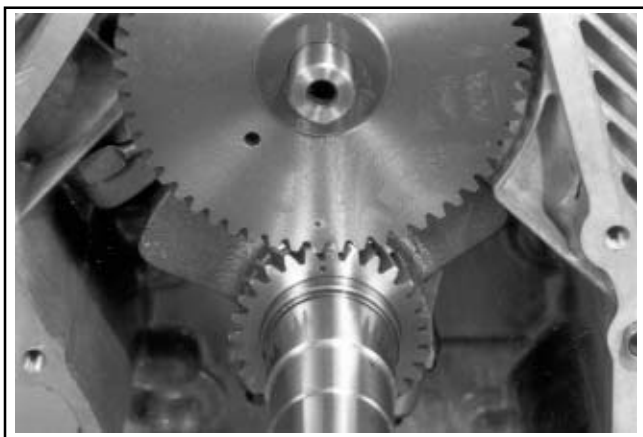

Figure 11-13. Aligning Crankshaft and Camshaft Timing Marks.
- Turn the governor cross shaft clockwise until the lower end of the shaft contacts the cylinder. Make sure the cross shaft remains in this position while installing the camshaft. See Figure 11-13.
- Slide the camshaft into the bearing surface of the crankcase, positioning the timing mark of the camshaft gear at the 6 o'clock position. Make sure that the camshaft gear and crankshaft gear mesh, with both timing marks aligned. See Figure 11-13.
- Make sure the end of the governor cross shaft is lying against the bottom of cylinder 1 inside the crankcase. See Figure 11-13.